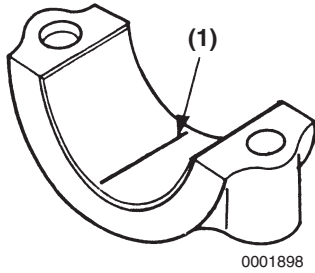

Figure 6-98
- (c) Place a piece of PLASTIGAGE® (**Figure 6-98, (1)**) along the full width of the bearing insert.